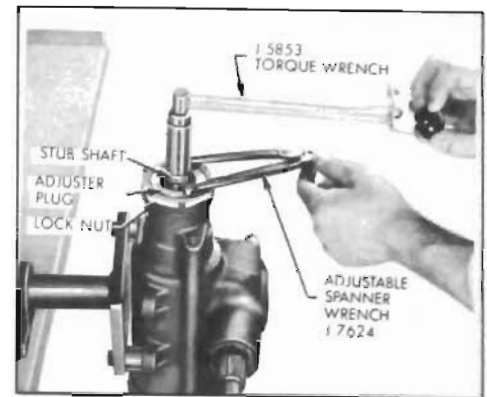

Figure 8-33—Adjusting Thrust Bearing Preload
times to measure valve drag and record highest reading. See Figure 8-33. Then tighten adjuster plug until thrust bearing preload is 1 to 3 inch pounds in excess of drag measured with adjuster plug backed out. Total of thrust bearing preload and valve drag should not exceed 11 inch pounds.
3. Adjust the thrust bearing preload. Attach Torque Wrench J-5853 with a $3/4$ inch socket to the stub shaft. Turn stub shaft to approximately $1/2$ turn from either extreme. Slowly rotate wrench in an arc approximately 60° ($1/6$ turn) in both directions several times to measure valve drag. See Figure 8-33. Then tighten adjuster plug until thrust bearing preload is 1 to 3 inch pounds in excess of valve drag measured with adjuster plug backed out. Total of thrust bearing preload and drag should not exceed 11 inch pounds.